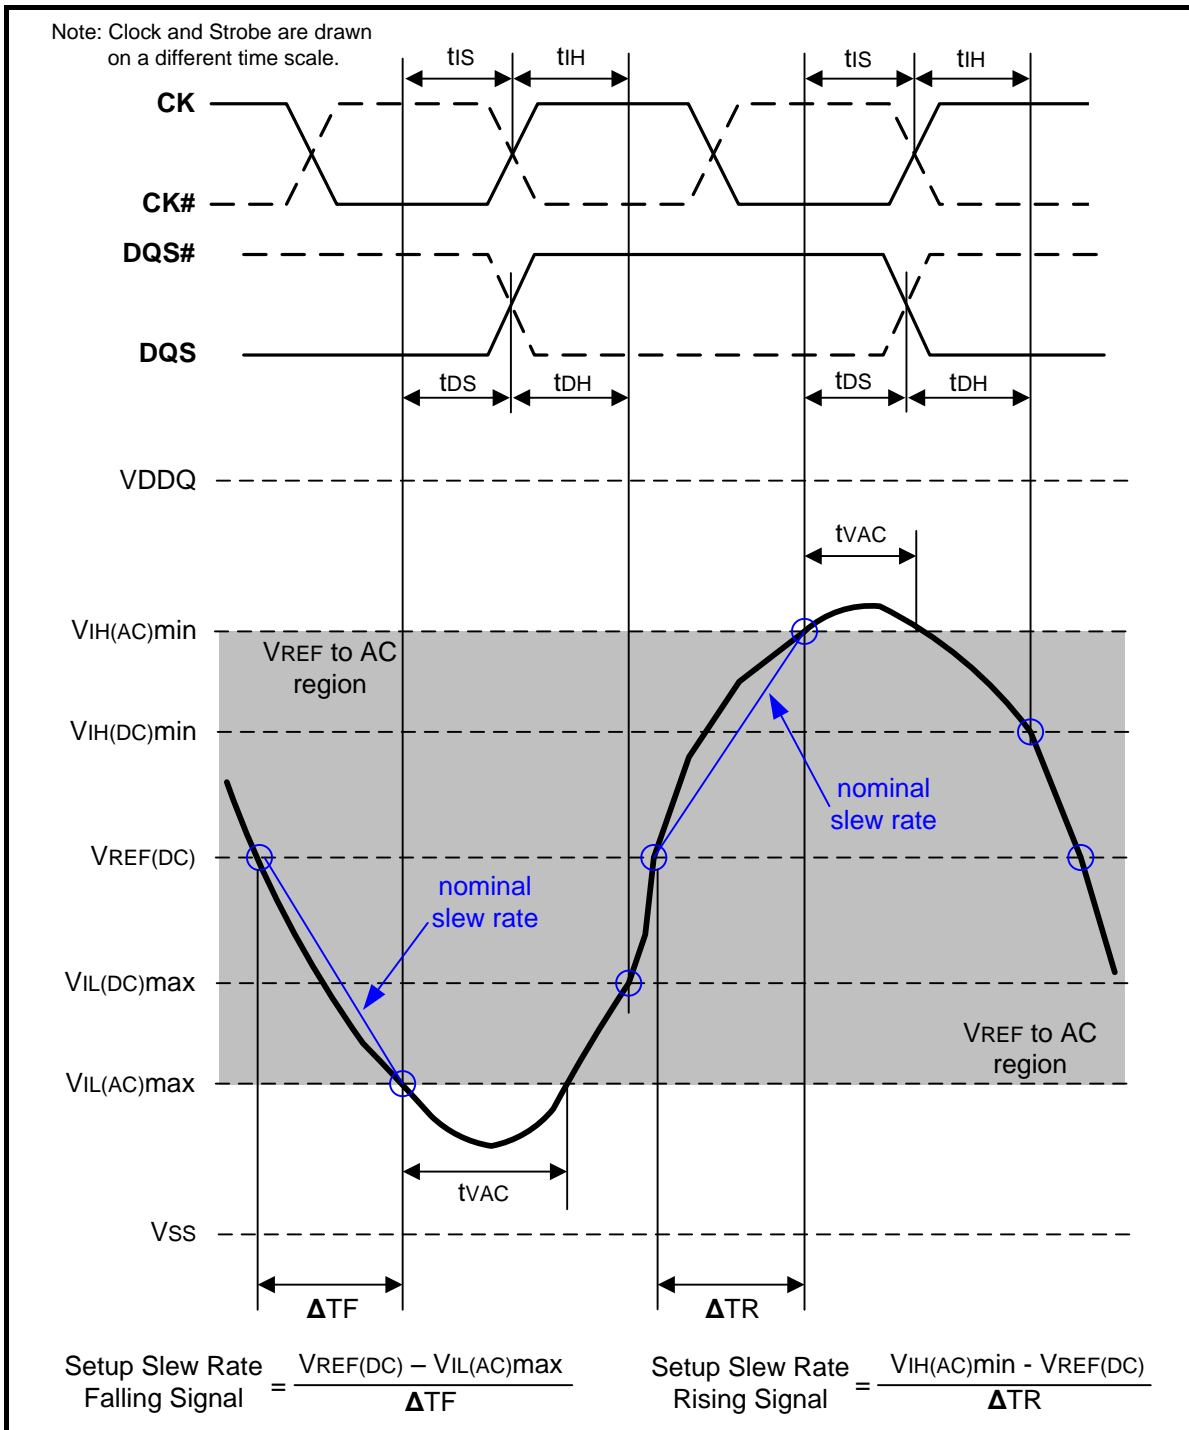
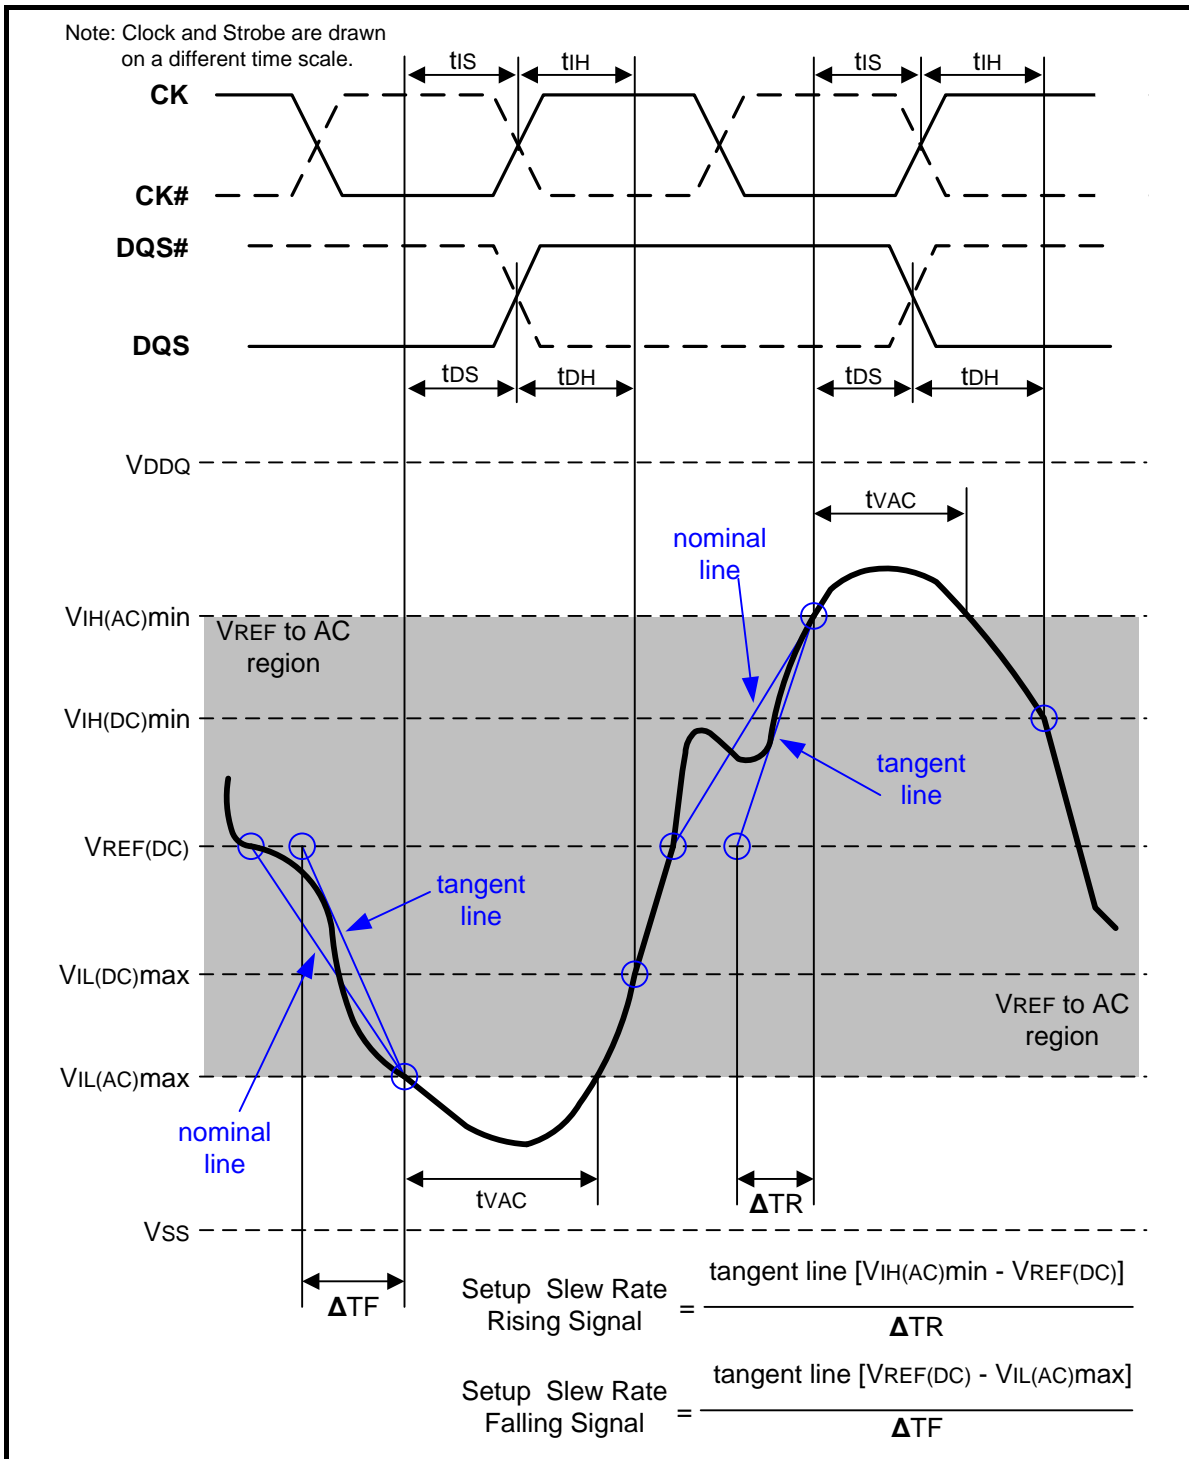

Figure 107 – Illustration of nominal slew rate and tvAC for setup time tds (for DQ with respect to strobe) and tis (for ADD/CMD with respect to clock)
Figure 109 – Illustration of tangent line for setup time tds (for DQ with respect to strobe) and tIS (for ADD/CMD with respect to clock)
Setup ( $t_{IS}$ ) nominal slew rate for a rising signal is defined as the slew rate between the last crossing of  $V_{REF(DC)}$  and the first crossing of  $V_{IH(AC)min}$ . Setup ( $t_{IS}$ ) nominal slew rate for a falling signal is defined as the slew rate between the last crossing of  $V_{REF(DC)}$  and the first crossing of  $V_{IL(AC)max}$ . If the actual signal is always earlier than the nominal slew rate line between shaded 'VREF(DC) to AC region', use nominal slew rate for derating value (see Figure 107). If the actual signal is later than the nominal slew rate line anywhere between shaded 'VREF(DC) to AC region', the slew rate of a tangent line to the actual signal from the AC level to DC level is used for derating value (see Figure 109).
Setup (tDS) nominal slew rate for a rising signal is defined as the slew rate between the last crossing of VREF(DC) and the first crossing of VIH(AC)min. Setup (tDS) nominal slew rate for a falling signal is defined as the slew rate between the last crossing of VREF(DC) and the first crossing of VIL(AC)max (see Figure 107). If the actual signal is always earlier than the nominal slew rate line between shaded 'VREF(DC) to AC region', use nominal slew rate for derating value. If the actual signal is later than the nominal slew rate line anywhere between shaded 'VREF(DC) to AC region', the slew rate of a tangent line to the actual signal from the AC level to DC level is used for derating value (see Figure 109).